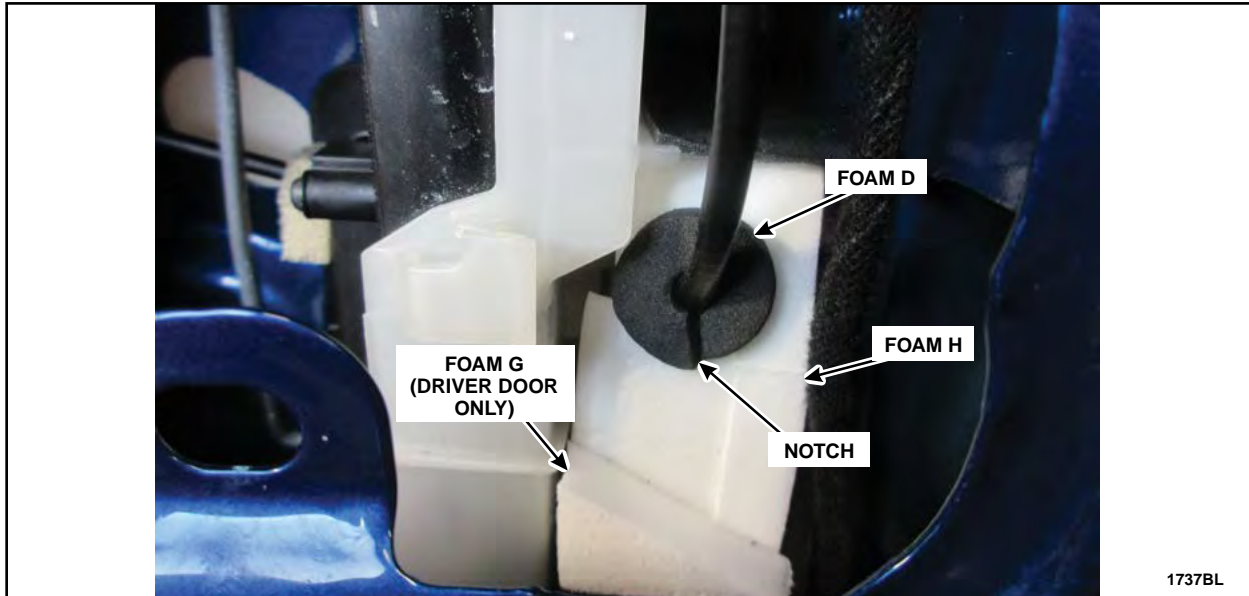

FIGURE 32
3. Install Foam D over the door latch cable and onto Foam H (driver door) and Foam B (passenger door) to cover the gap between the cable and Foam H. See Figure 32.